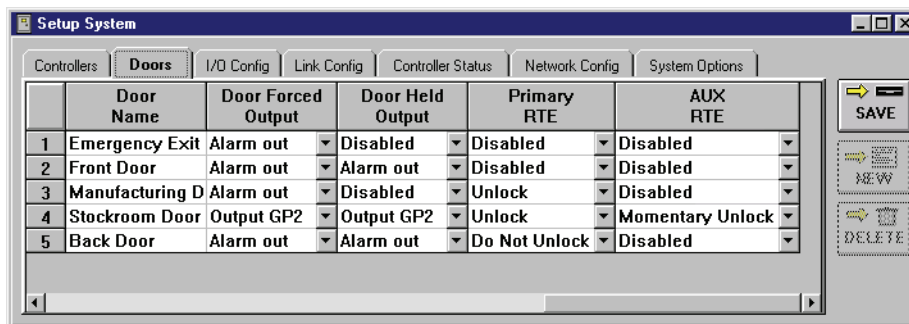

Figure 3-29: Set the Primary and Auxiliary RTE Values
13. The resulting window should look similar to Figure 3-29.